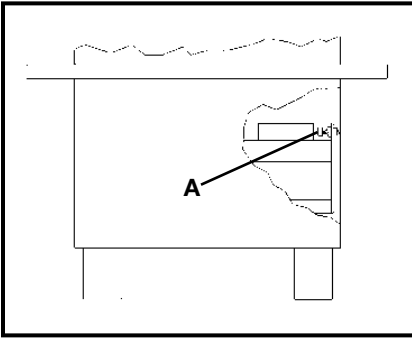
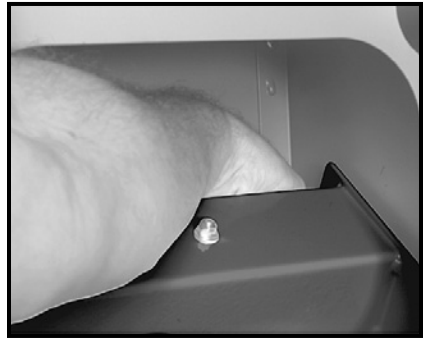

Fig. 25
Fig. 26
5. Locate the adjusting screw (A) Fig. 25, reach into bottom of machine and locate the screw by “feel” (see Fig. 26).